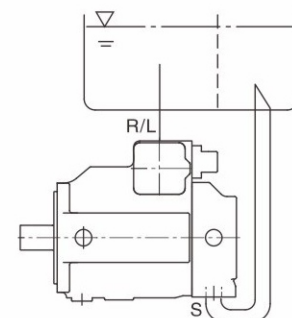

Figure 5
- For mounting under the tank, port R/L and S must be connected with pipes, as shown in Figure 5.